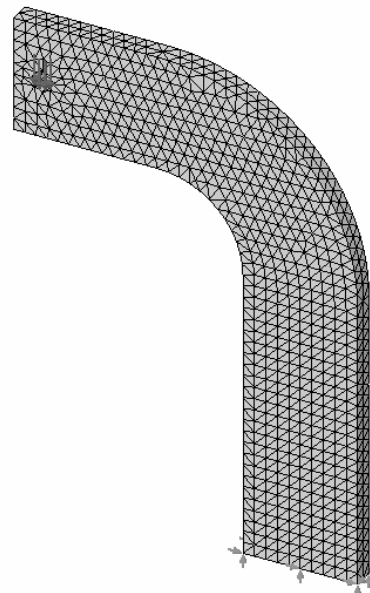

Figure 14 – Curved beam with mesh and boundary conditions illustrated.
10. Meshing starts automatically and the **Mesh Progress** window appears briefly. After meshing is complete, COSMOSWorks displays the meshed model shown in Fig. 14. Also, a check mark “✓” appears on the **Mesh** folder to indicate meshing is complete.
Rotate the model slightly as illustrated in Fig. 14 and notice that the mesh is just two elements *thick*. Two elements across the model thickness is considered the minimum number for which *Solid Elements* can be used. Thus, two elements are considered an unofficial dividing line between when *Shell* or *Solid Elements* should be used. Therefore, either element type could be used for this model.